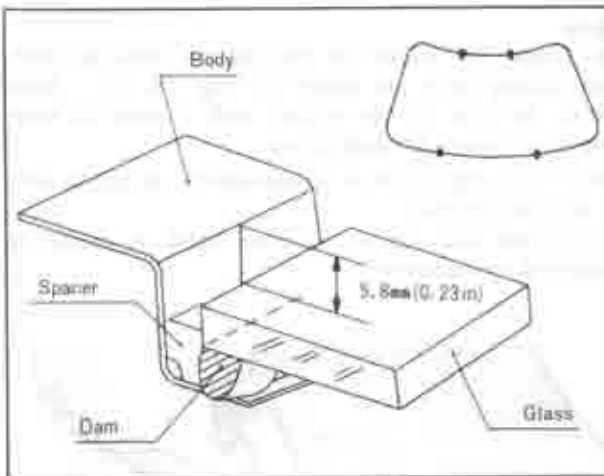

Fig. 14-33 Adjusting clearance
8. Firmly press the glass against the sealant with hand pressure. Then, inspect the appearance of the sealant through the glass. A dull spot indicates an area where the sealant does not contact glass surface. Additional hand pressure will seal most areas. When installing the glass, 5.8 mm (0.23 in) clearance should exist between the body and the glass. Check the clearance at the four positions shown in Fig. 14-33.